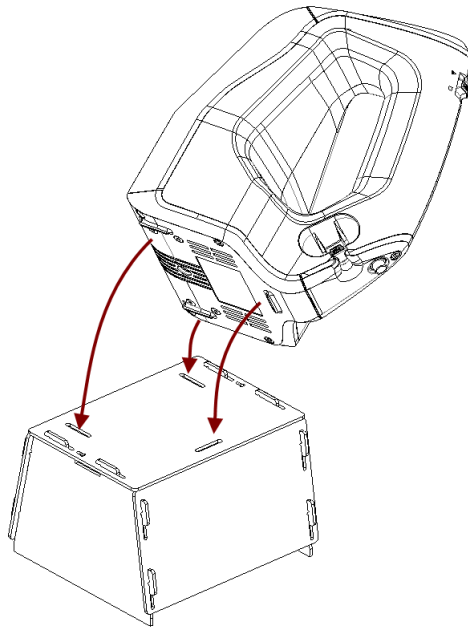

Figure 170: Placing Artec Spider on the stand
3. Place the scanner on the scanner stand, making sure that you insert the three scanner stems in the three slots of the stand cover (see Figure 170).